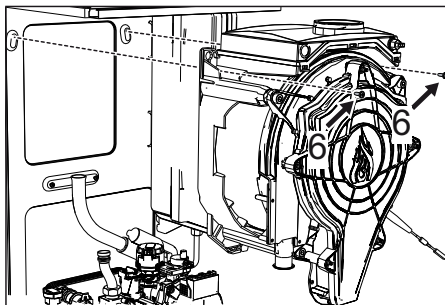

fig. 51
- Remove the 2 **top** screws "6" securing the exchanger to the frame (fig. 51)